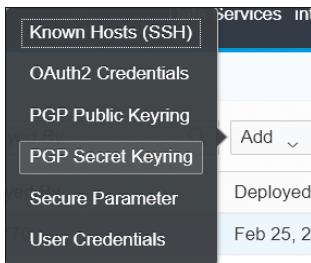

Figure 10.35 Adding a PGP Secret Keyring Artifact
2. Select **Add • PGP Secret Keyring**, and choose **Next** (Figure 10.35).